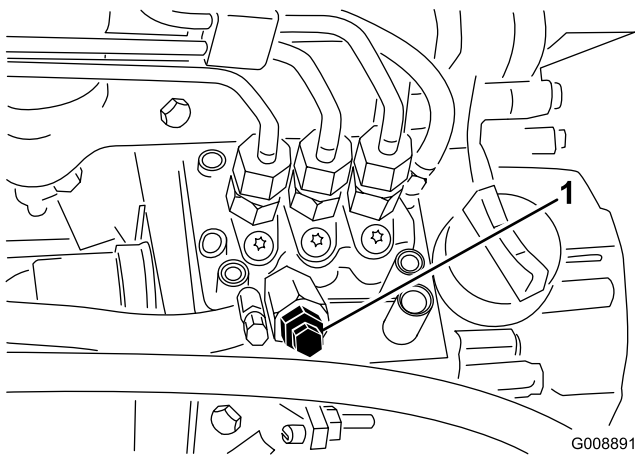

Figure 43
3. Open the air bleed screw on the fuel injection pump (Figure 43).